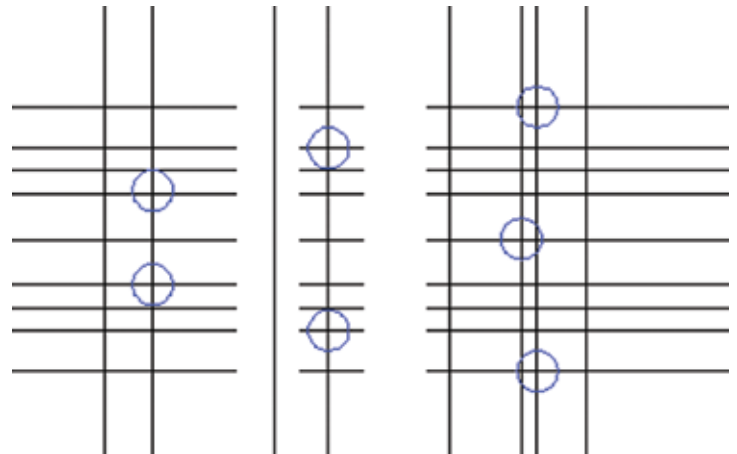

Figure 9.8
15. Using multiple copy, **duplicate your first circle** so your drawing looks like Figure 9.8.